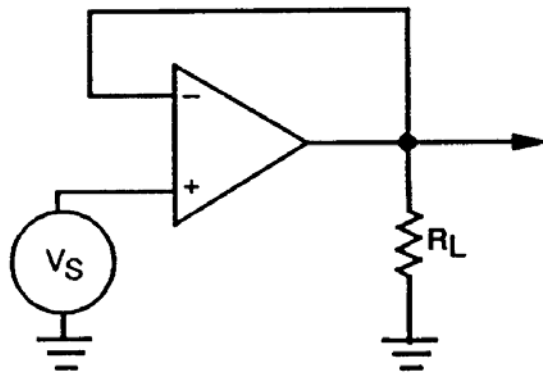

Figure Q-37. Voltage Follower
e. The voltage follower, shown in Figure Q-37, is nothing more than a buffer stage with a gain of about 1. It has a very high input and a very low input for matching purposes.